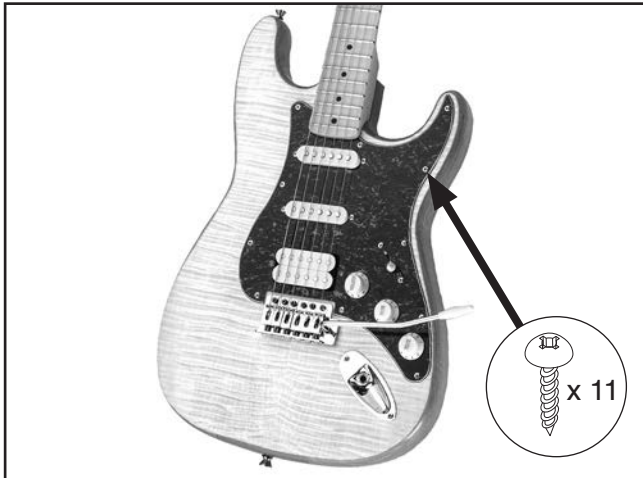

Figure 24. Pick guard installed on body.
1. Use a $\frac{3}{32}$ " drill bit to drill $\frac{5}{16}$ " deep holes through eleven holes in pick guard (see **Figure 24**).
3. Secure pick guard to guitar body with (11) M2.5 x 8 tap screws (see **Figure 24**).